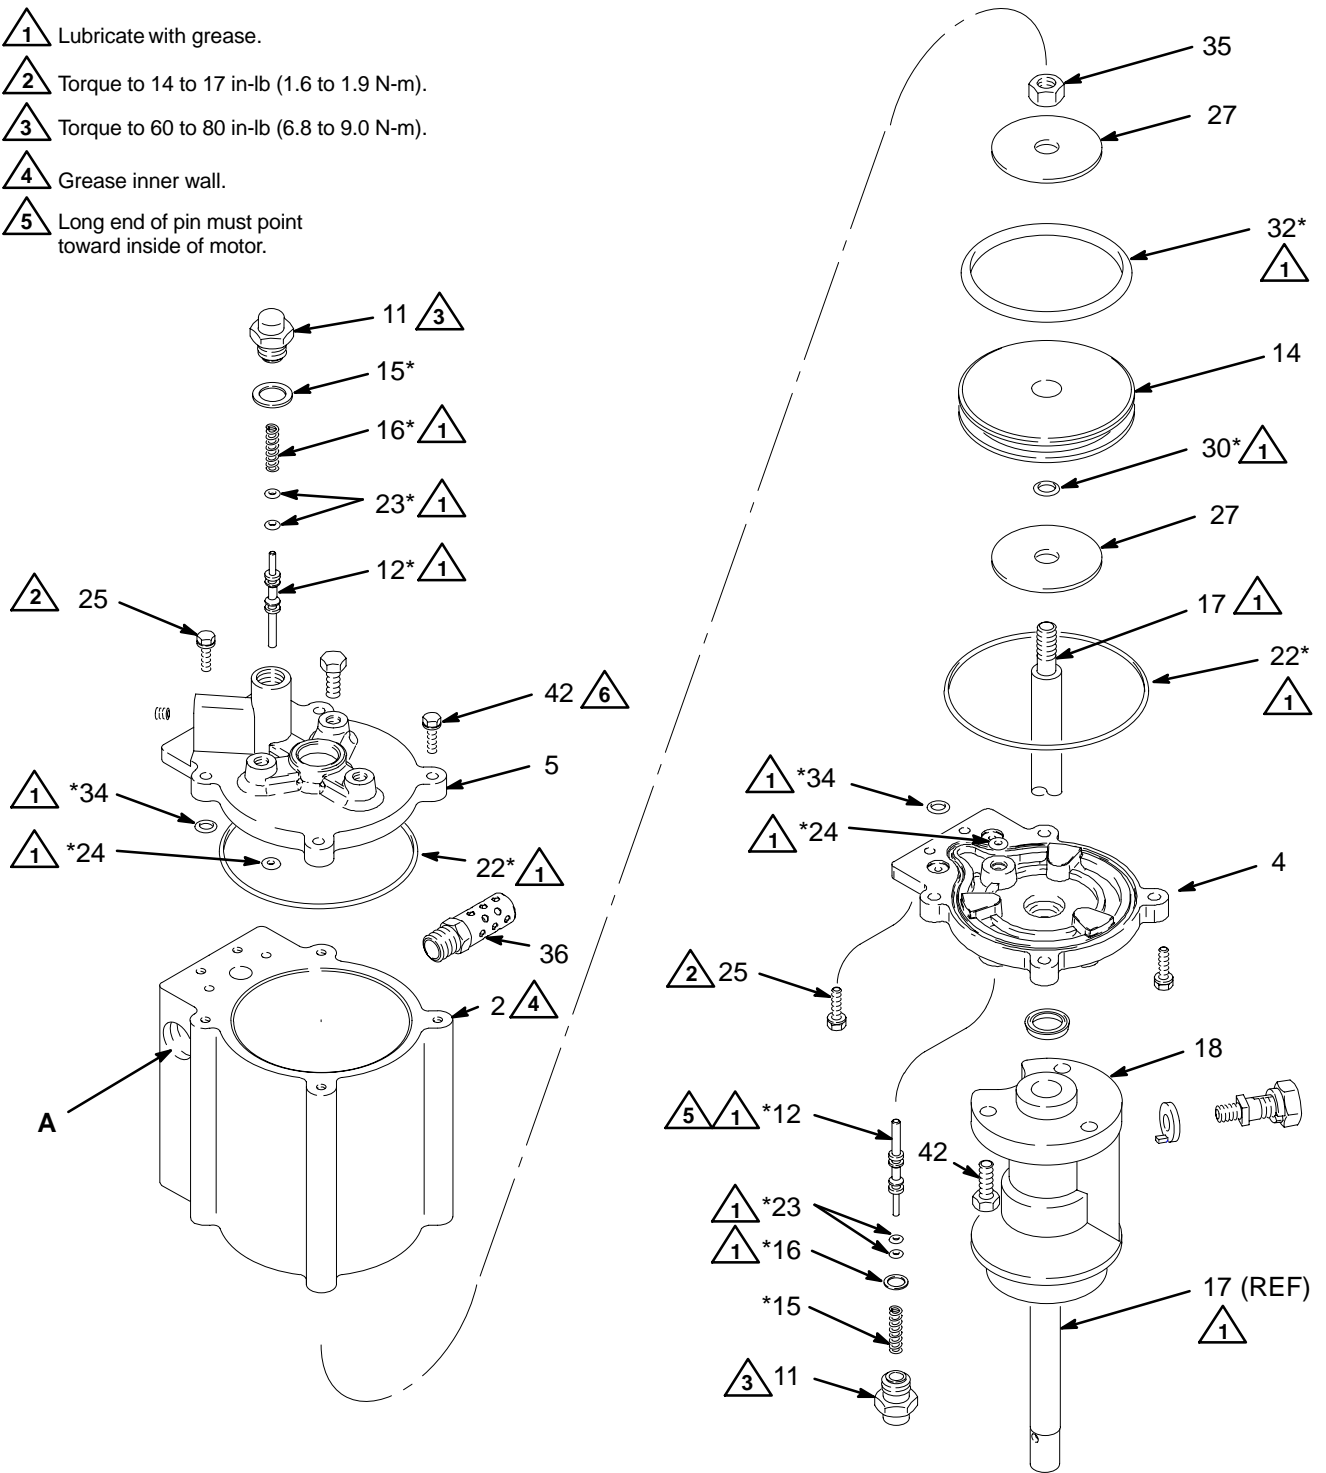

Fig. 11
1. Disconnect the air motor (1) from the displacement pump, as explained on page 15.
2. Remove the six screws (25 and 42) holding the bottom cylinder cap (4) to the cylinder (2). Lift the cylinder off the cap to expose the piston (14). See Fig. 11.
3. Pull the piston (14) and piston rod (18) out of the outlet housing (18) and bottom cylinder cap (4).
4. Remove the piston o-ring (32*). Insert a punch in the hole at the end of the piston rod (18) to hold it steady, and unscrew the nut (35) from the rod. Remove the two washers (27), o-ring (3g*) and piston (14).
5. Stand the cylinder (2) upright. Remove the six screws (25 and 42) and lift off the top cap (5).
7. Remove the large o-ring (22*) and two small o-rings (34*) from the inside of the top cylinder cap (5). Repeat for the bottom cylinder cap (4).
1. Grease the large o-ring (22*) and the two small o-rings (34*) and install them on the top cylinder cap (5). Repeat for the bottom cylinder cap (4). See Fig. 11.
2. Install the top cap (5) on the cylinder (2). Be sure that the large o-ring (22*) does not roll out of the groove. Install two M4 screws (25) in the square section of the cap and four M5 screws (42) in the tabs. Torque the two M4 screws (25) to 14 to 17 in-lb (1.6 to 1.9 N-m) and the four M5 screws (42) to 35 to 45 in-lb (4.0 to 5.1 N-m).
3. Install a washer (27), an o-ring (3g*), the piston (14), *with the chamfer facing down toward the o-ring (3g)*, and a washer (27) on the piston rod (17). Screw the self-locking nut (35) onto the rod. Install the o-ring (32*) on the piston (14), and lubricate the o-ring.
4. Grease the piston rod (17) and the inner wall of the cylinder (2).
5. Insert the piston rod (17) into the bottom cap (4) and the outlet housing (18), being careful not to damage the u-cup packing (19) inside the cap.
6. Install the cylinder (2) down over the piston (14). Be sure that the large o-ring (22*) does not roll out of the groove. Install the screws (25 and 42) in the bottom cap (4), as explained in step 2.
7. Reconnect the air motor (1) to the displacement pump, as explained on page 15.
1. Remove the actuator valve plug (11) from the top cap (5). Inspect the sealing gasket (15*) and spring (16*) in place on the plug. If the gasket needs replacement, thread it off the plug (11). See Fig. 11.
2. Pull the pin (12*) out of the top cap (5). Remove the two o-rings (23*) from the pin.
4. Repeat for the bottom cylinder cap (4).
1. If the o-ring (24*) was removed, it must be installed from the inside of the top cap (5). Lubricate the o-ring. See Fig. 11. Reinstall the top cap. See **Cylinder and Piston Service**.
2. Install the two o-rings (23*) on the pin (12*). Grease the pin and insert it in the top cap (5). The long end must point toward the inside of the motor.
3. Thread the gasket (15*) onto the plug (11). Grease the spring (16*) and install it in the plug. Screw the plug into the top cap (5) and torque to 60 to 80 in-lb (6.8 to 9.0 N-m).